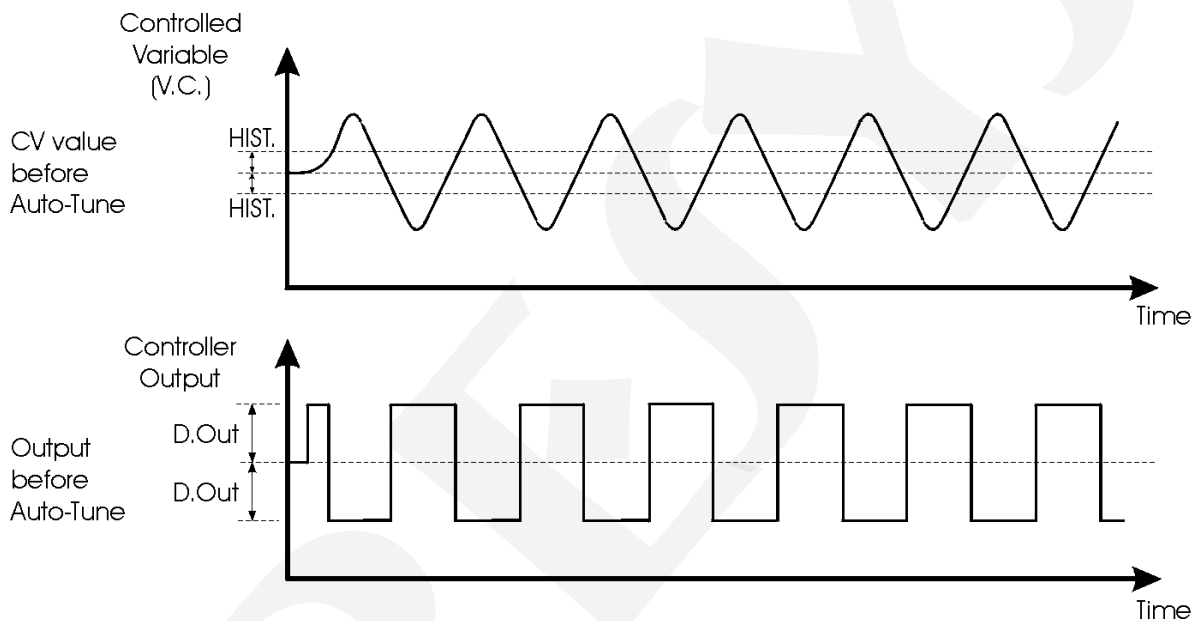

Fig. 25 - Process variable and control output for on demand auto-tune
Whenever the auto-tune on demand is activated, the Controllers start generating a square wave in their control outputs with an amplitude selected by the user (D.Out), centered on the output value, in order to cause oscillations on the controlled process, as illustrated on figure 25. Based on such oscillation the auto-tune algorithm computes the PID parameters and from that moment on the plant is controlled by those new parameter values.
- iii) to select the amplitude of the square wave (D.OUT) and of the hysteresis (Hist), see figure 25.